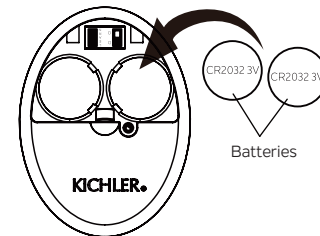

Fig. 29
Step 2. To make fan operational, install two 3V CR2032 batteries (included). The batteries should be installed with the positive (+) side up. Replace with CR2032 batteries when necessary. (Fig. 29)